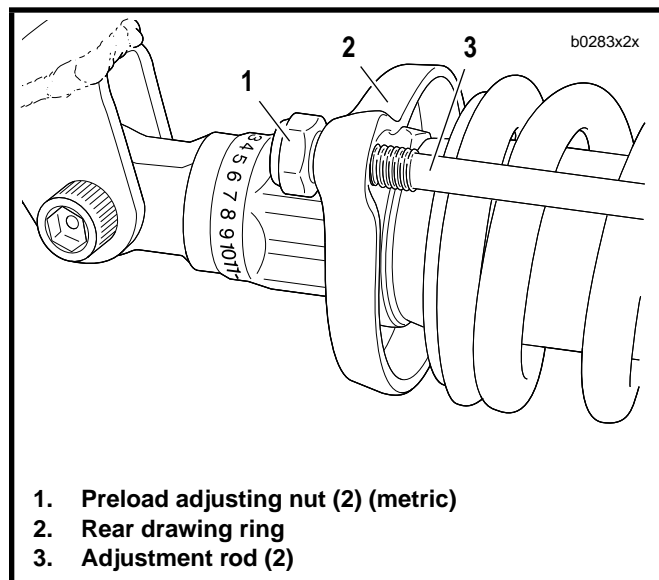

Figure 7. Adjusting Rear Preload
9. See Figure 7. Change the spring preload by adjusting both preload adjusting nuts (1) (metric) behind the rear drawing ring (2).